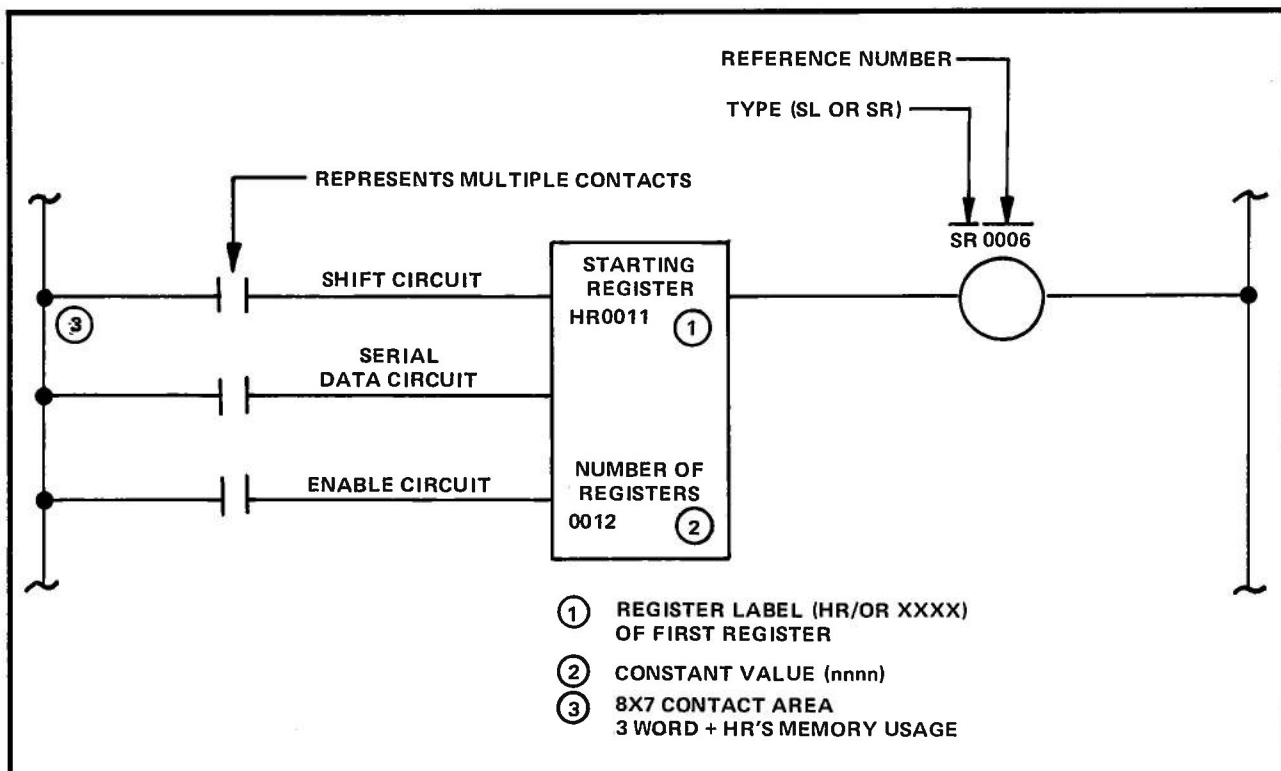

Figure 1. Shift Right (SR)/Shift Left (SL)
The Shift Register functions provide the vehicle for serial shifting register data under program control. On command from the program, the contents of the register are shifted one place to the right by using the Shift Right (SR) function or one place to the left by using the Shift Left (SL) function. SR/SL function symbology is shown in Figure 1.